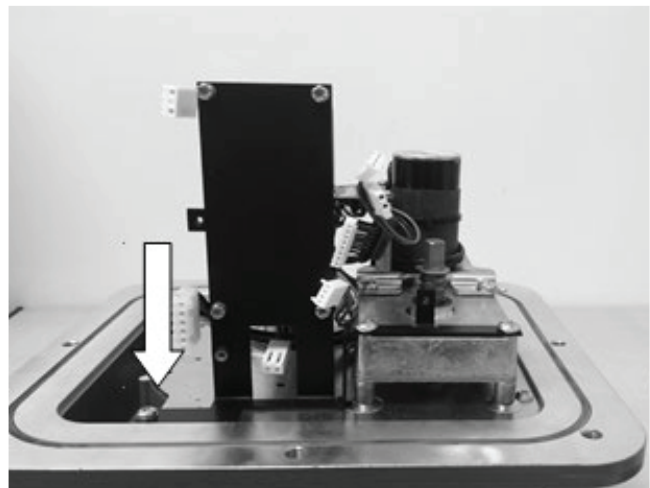

Figure 29.
- 4.31 Re-install the board bracket to the base. Make sure you replace the lock washer under the screw indicated in Figure 29.